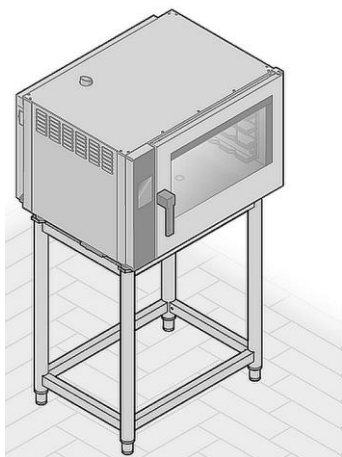

Fig. 7
- a suitable piece of equipment (Fig. 7);